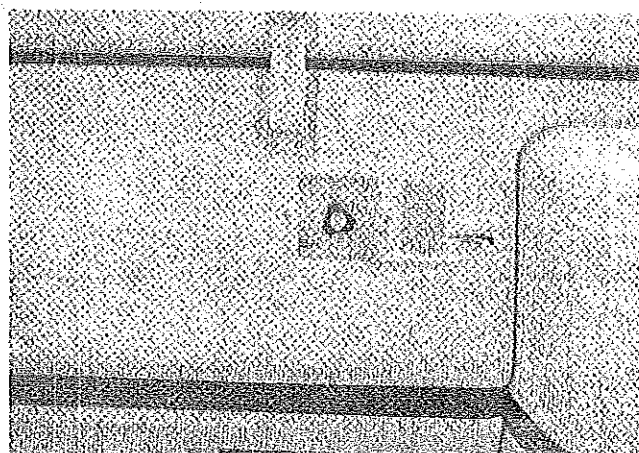
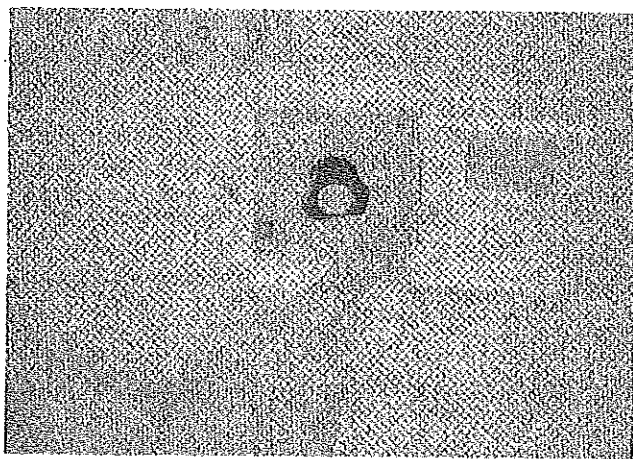

FIGURE 4
FIGURE 5
1. Open the power lift access door panel located on the upper curbside area of the front body panel. See Figure 4. Turn the release valve clockwise to the fully closed position. Ensure the safety cable is pushed fully inward. See Figure 5.